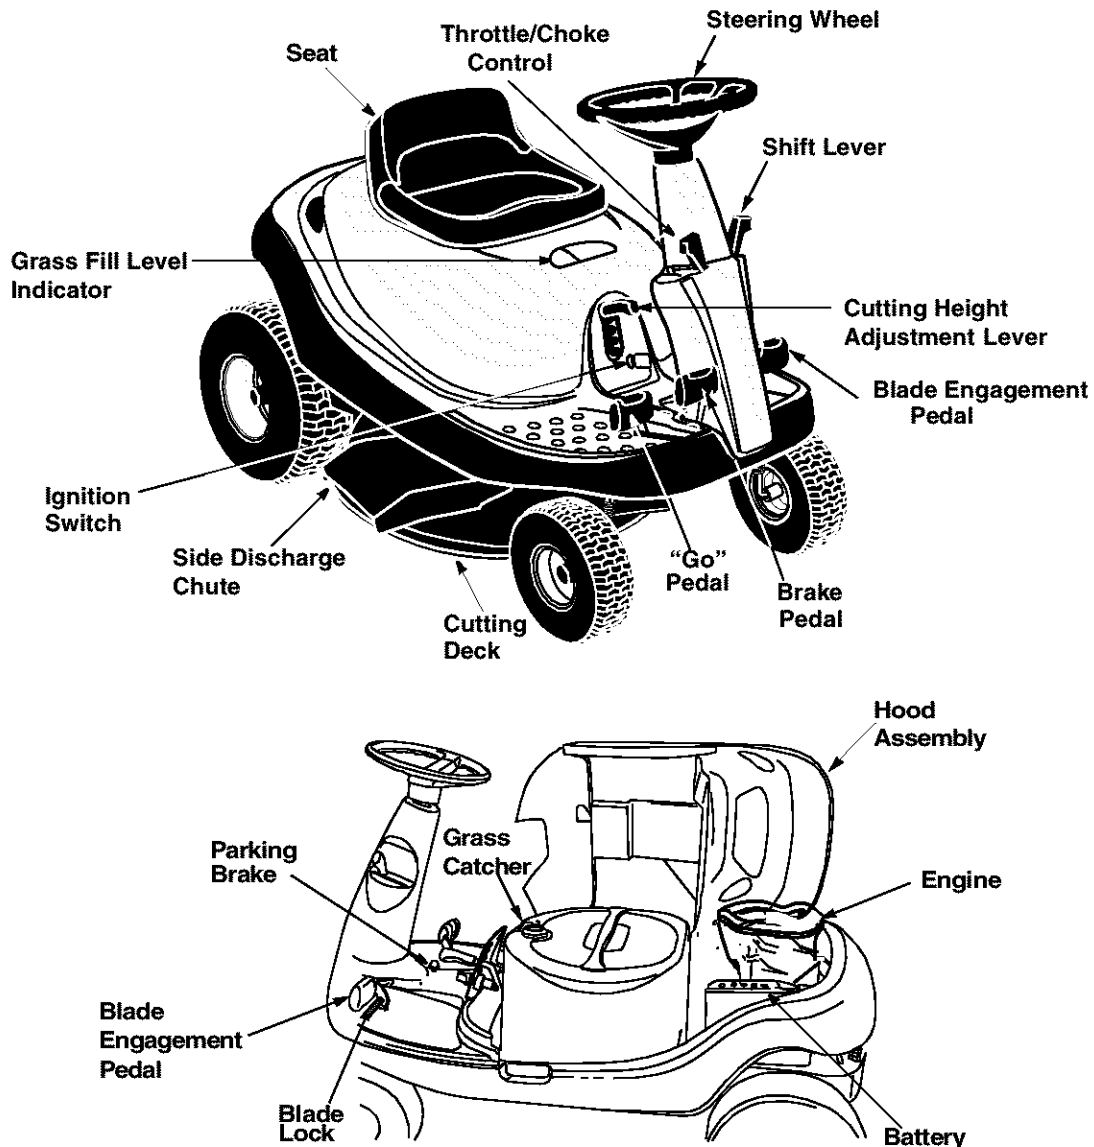

Figure 8
- Be sure the parking brake is disengaged. See Figure 8 for location of the parking brake. Roll unit out of the crate.
Compare the illustrations in Figure 8 with your riding mower to familiarize yourself with the location of various controls and adjustments.
NOTE: Your riding mower is equipped with a blade lock to keep the blade engaged without the operator having to depress the blade pedal continuously. See Figure 8.